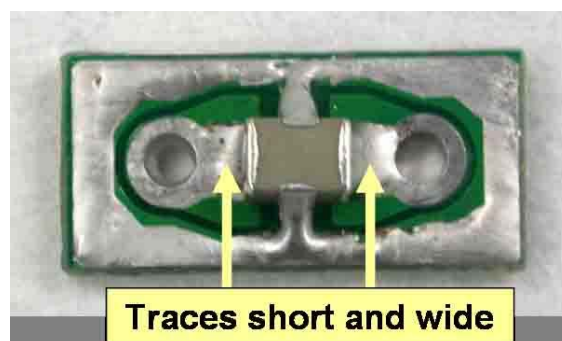

Figure 16. Traces to the X2Y® component should be short and wide to reduce inductance.
- ii. Traces on the brush card or PCB should be short and wide to minimize inductance (Figure 16). Parasitic inductance can impair a component's performance.